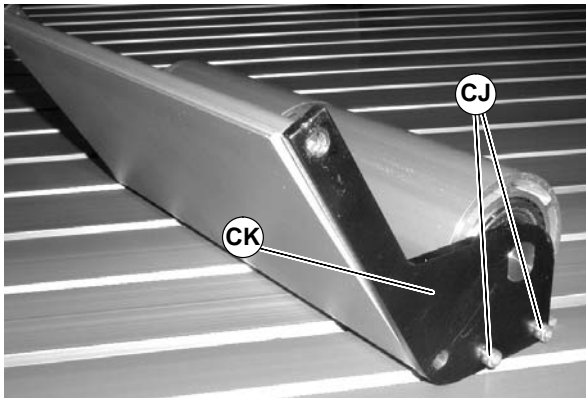

Figure 71
- Remove screws (CJ of Figure 71) and idler guide side plate (CK).